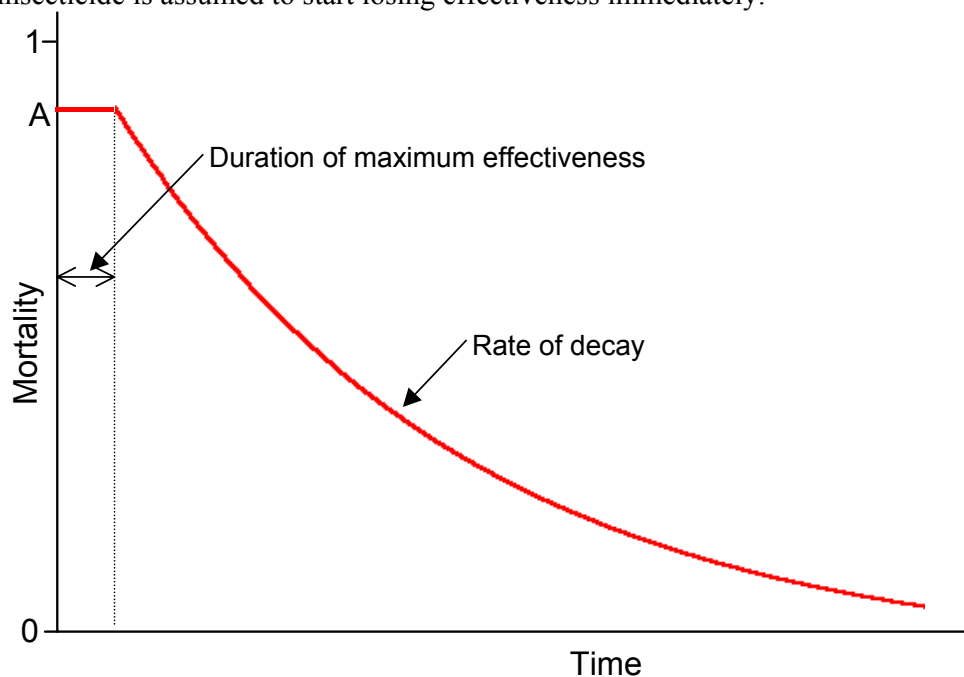

Figure 9-2 Mortality effects for the pyrethrin spray
Since, for this model, the event will be the administration of a pyrethrin spray, the parameter or function will determine the mortality rate for the pseudo-aphid. Users will appreciate that a spray application and its consequent effects are determined by quite complex interactions. Among these are spray concentration, wind-drift, tolerance of the population, lessening effects over time, etc. To model these in detail, a series of additional functions or modules may be needed in addition to the “Event” module. For simplicity, the Pseudo-aphid will be considered to suffer a 90% mortality on initial application of the spray followed by an exponential decay of the spray effects over the following 2 days. The output from the “Spray” Event module will then be used to drive mortality in both the juvenile and adult stages of the aphid. Figure 9-2 shows the pre-defined DYMEX function “Exponential Decay” which will be used to simulate the decay in effectiveness of the insecticide. The function includes a parameter that specifies a time after which the exponential decay starts (the “Duration of maximum effectiveness”). For this example, it will be set to 0 – i.e., the insecticide is assumed to start losing effectiveness immediately.
16. For the parameter **“p1: Threshold”**, set the lower and upper limits, as well as the default, to 0. This parameter is the “Duration of maximum effectiveness” shown in Figure 9-2 and should be renamed as such
18. The 3rd parameter, **“p3: Scaling Factor”**, is the maximum mortality (**A** in Figure 9-2). Set the values to 0.5, 1.0 and 0.9 for the lower limit, upper limit and default, respectively. Rename to “Maximum Effectiveness”